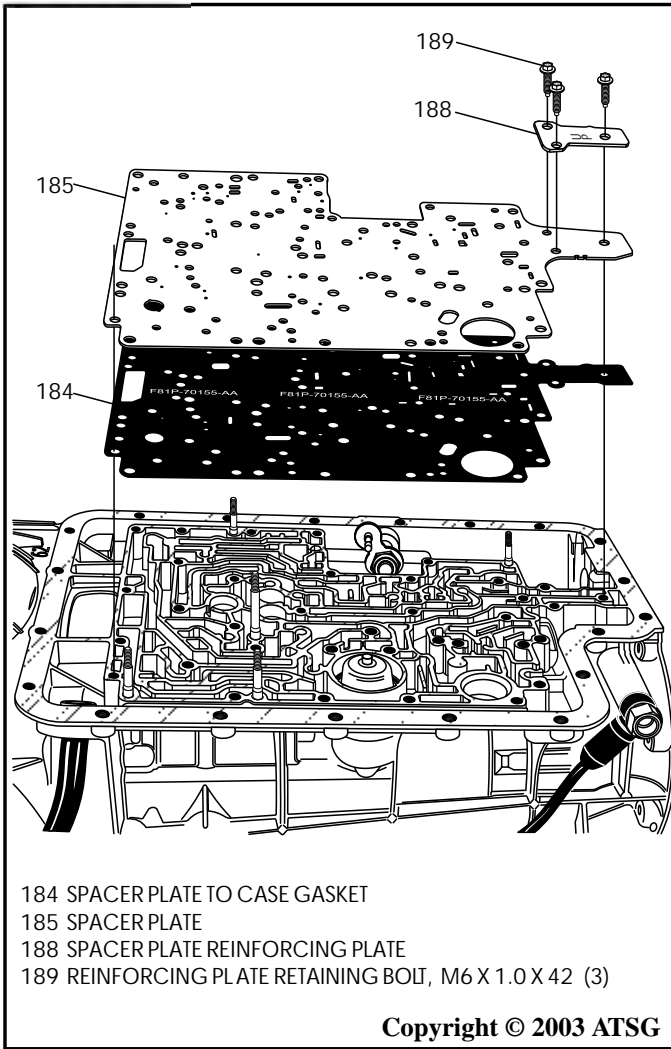

Figure 53
11. Remove the 3 retaining bolts for the reinforcing plate, as shown in Figure 53, and remove the reinforcing plate and the spacer plate.
12. Remove and discard the spacer plate to case gasket, as shown in Figure 53.